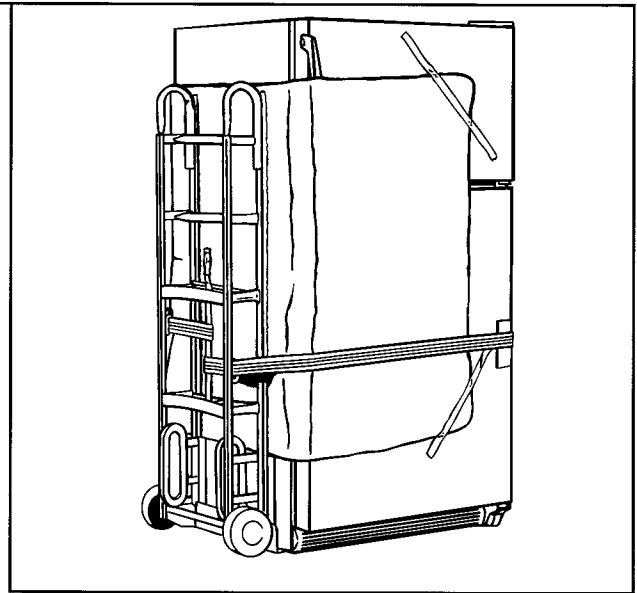

Figure 5
4. Thread strap from cart around refrigerator. See Figure 5.